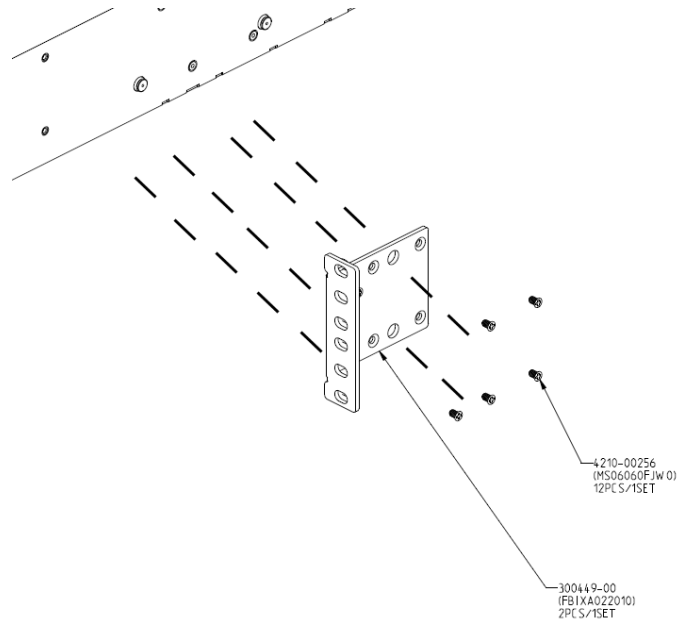

Figure 18: Attaching a Short Mounting Bracket (Ear): Middle of Device
- a. Position the bracket so that the flange (ear) is positioned slightly more than halfway between the front and back of the device, as shown in Figure 18.